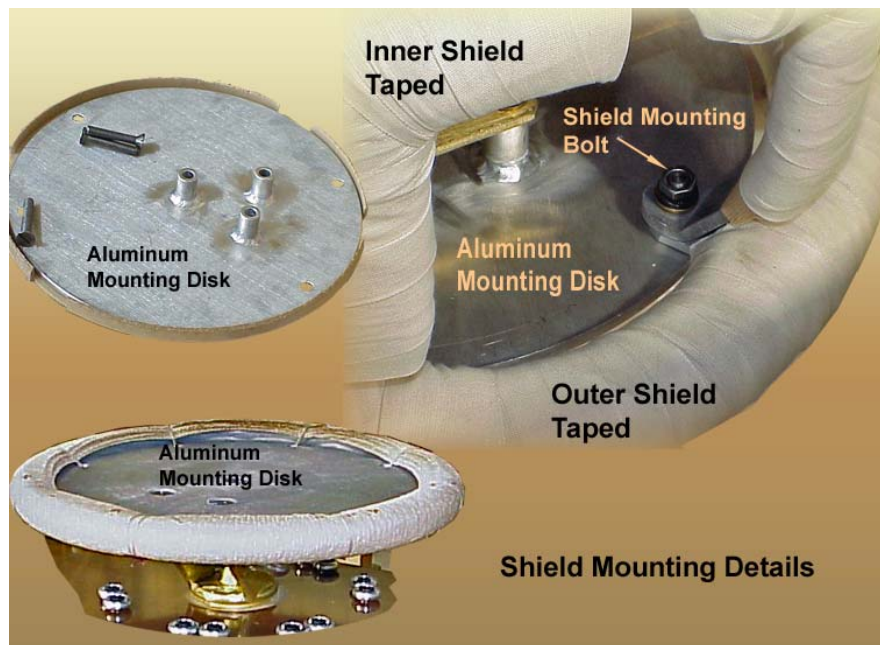

Figure 15
**Level 2 Shield Kit:** To install a Level 2 shield kit, bolt the crepe paper wrapped aluminum shield casting and the aluminum-mounting disk to the worm gear housing with the three bolts provided in the kit as in Step 10. Place the outer continuous ring shield in position and, after that, place the inner half-circle ring shields in position. Both the outer ring and the inner half-circle rings are bolted to the cast aluminum-mounting disc with four bolts. See Figure 15.